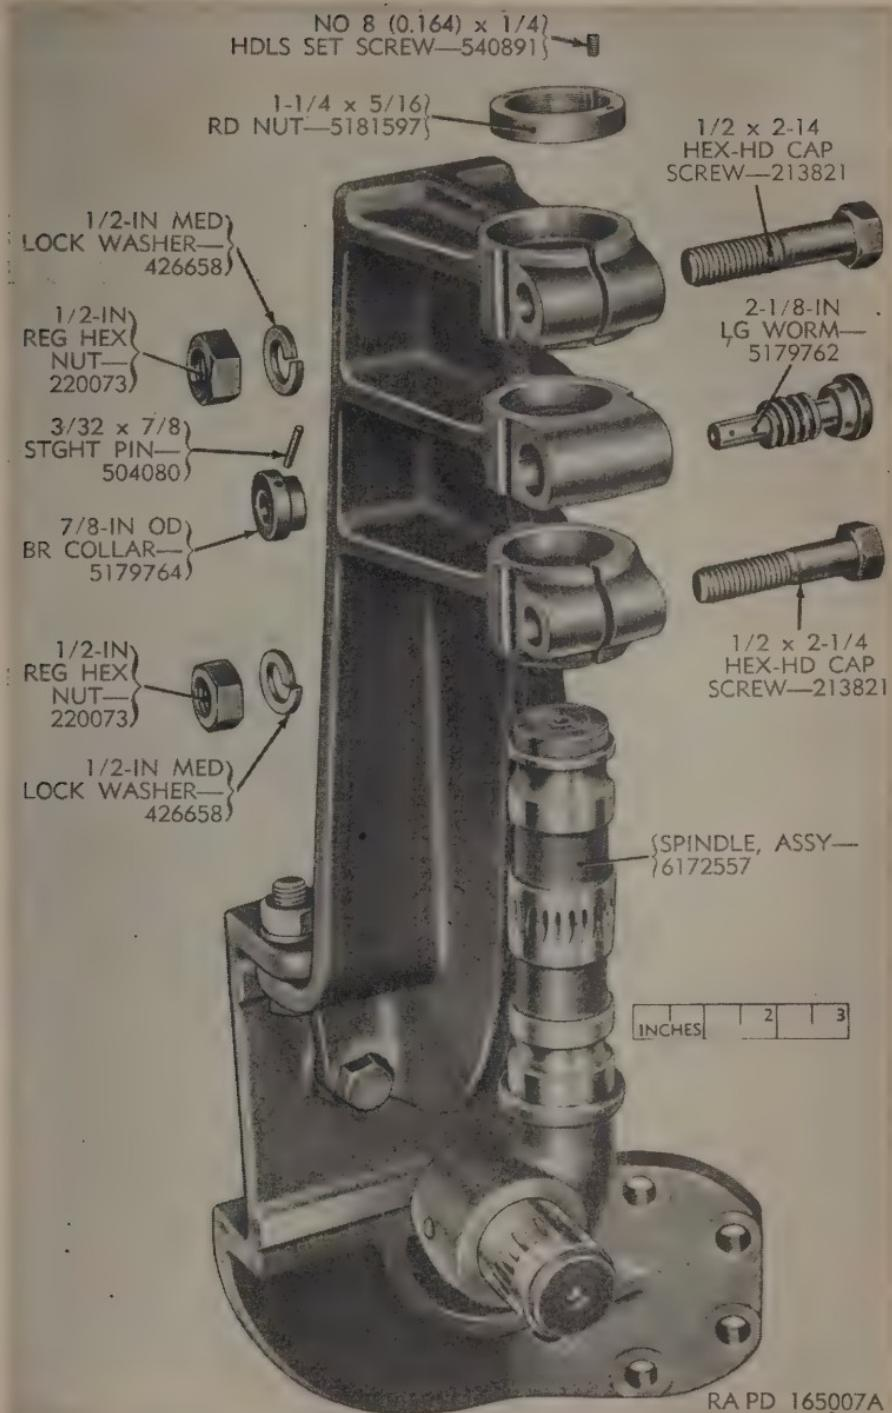

Figure 33. Telescope mount M28—removal of the spindle assembly—exploded view.
(fig. 33)
85. Installation of the Spindle Assembly (fig. 33)